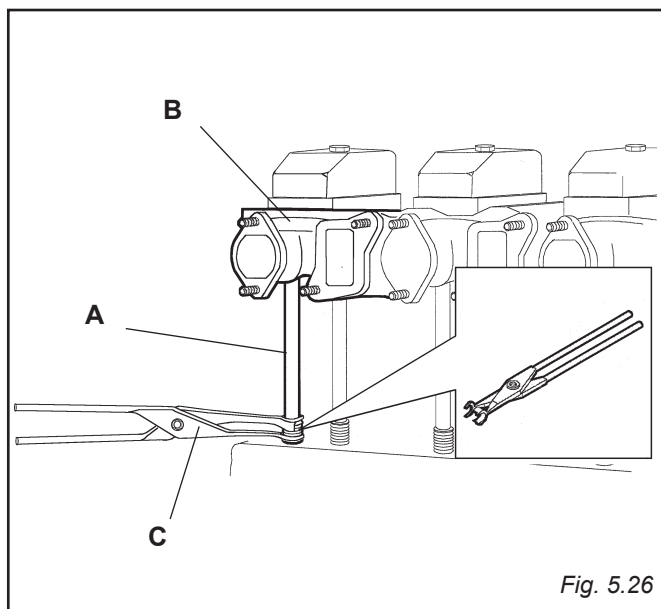

Fig. 5.26
5.33 PUSHROD PROTECTION TUBES (FIG. 5.26)